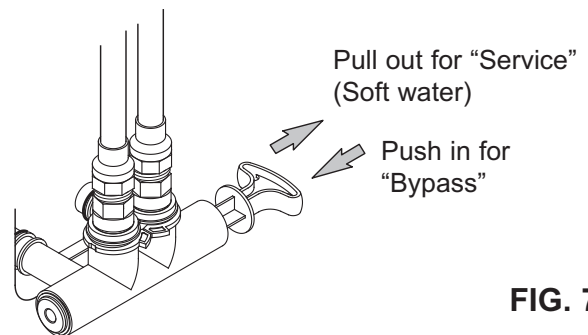

FIG. 7
Always install either a single bypass valve (provided), as shown in Figure 7, or, if desired, parts for a 3 valve bypass system (not included) can be purchased and assembled, as shown in Figure 8. Bypass valves allow you to turn off water to the softener for maintenance if needed, but still have water in house pipes. Pipe fittings must be 3/4" minimum.
2. Place the single bypass valve or 3 valve bypass in "bypass" position. See Figures 7 & 8.